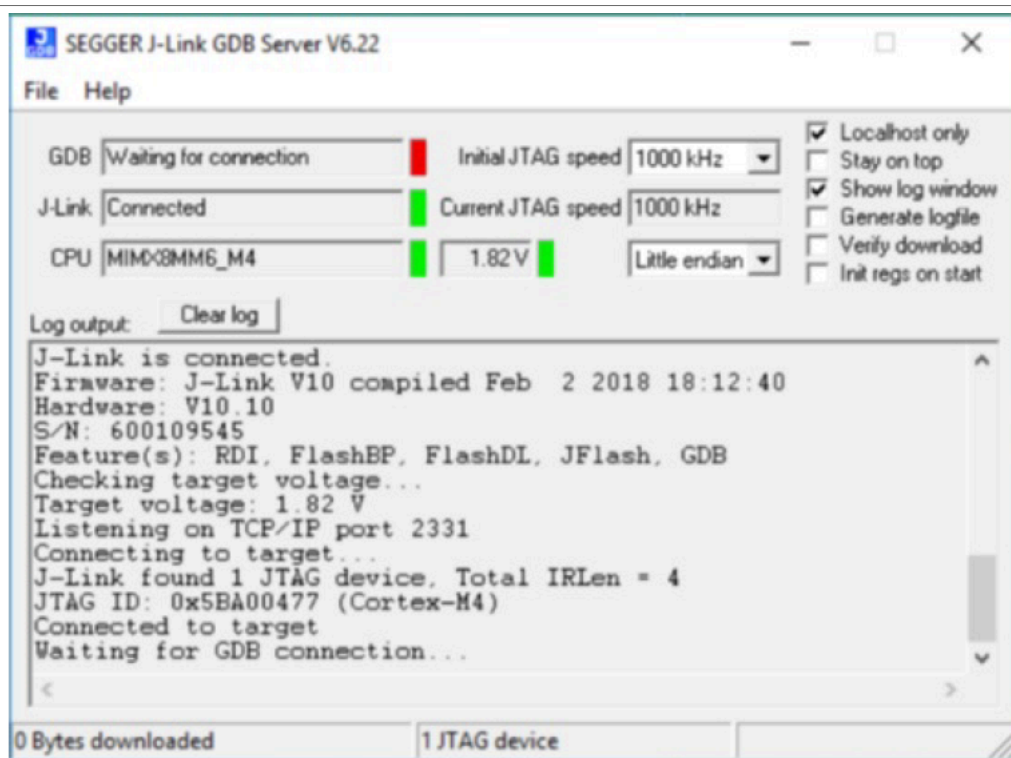

Figure 127. J-Link connected and GDB server running
5. After GDB server begins to run, the screen looks as in Figure 127: